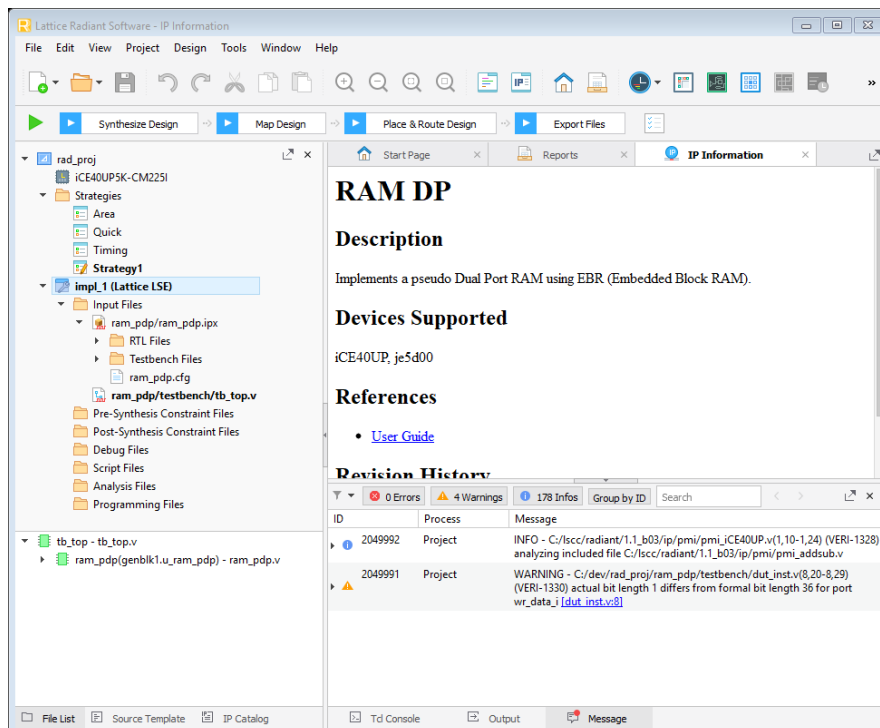

Figure 6.3. Top Level Testbench Instance Added in the Project.
- Click the name of the IP instance, in this case **ram_dist**, and then navigate to **<IP name>/testbench**. Click on the **tb_top.v** file, then click **Add**. This adds the top level testbench to the project. After opening, it should look something like the image shown in Figure 6.3.